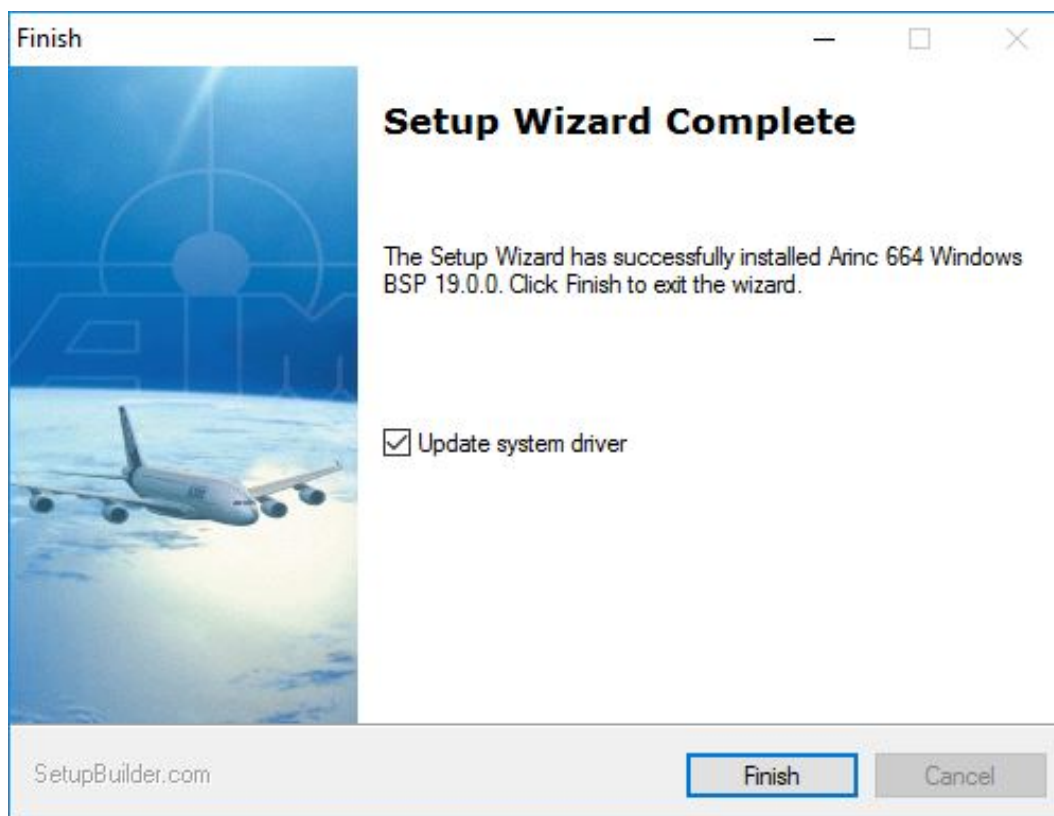

Figure 1: Automatic Driver/Firmware Update
3. After successful BSP installation, choose to automatically update drivers and Firmware during last step of installation wizard (See figure 1).